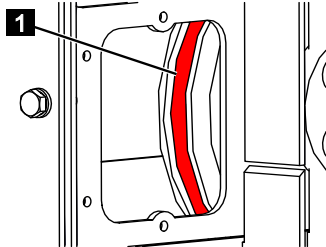

Fig. 256
5. While the telescopic boom is extending, check the ropes (Fig.256/1) on the left side for damage and apply spray grease.